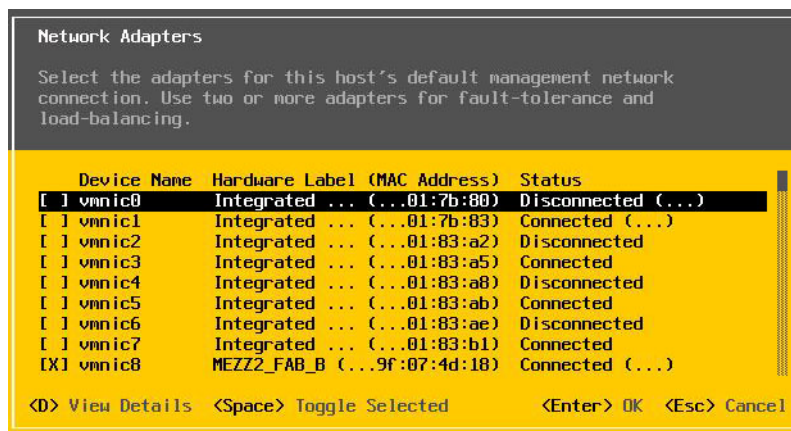

Figure 13-32. ESXi Management Network Selection
9. On 57800 and 57810 boards, the management network is not vmnic0. After booting, open the GUI console and view the Configure Management Network, and then the Network Adapters window (Figure 13-32) to select the NIC to be used as the management network device.